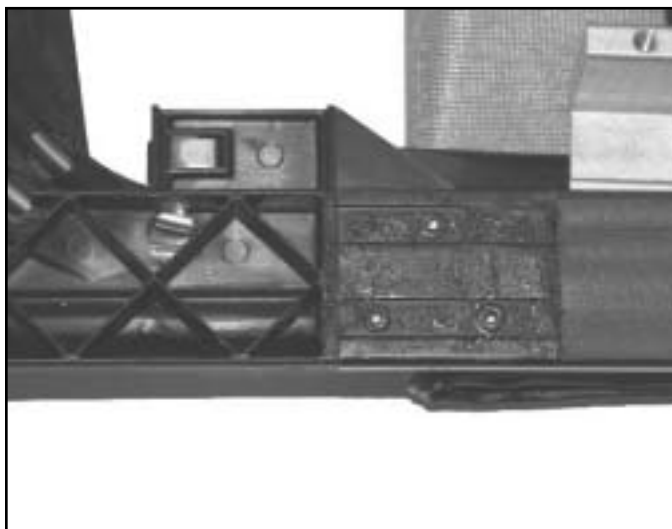

Figure S-80
8. Peel back the foam tape 11 inches (28 cm) from the front rail to the track to expose the three (3) retaining rivets. See figure S-80.